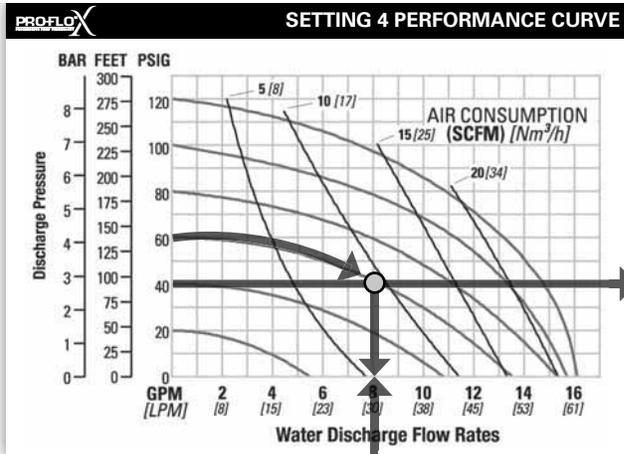

Figure 1
FIGURE 1 When air pressure is supplied to the pump, the air valve directs pressure to the back side of the diaphragm **A**. The compressed air moves the diaphragm away from the center section of the pump. The opposite diaphragm is pulled in by the shaft connected to the pressurized diaphragm. Diaphragm **B** is on its suction stroke; air behind the diaphragm has been forced out to the atmosphere through the exhaust port. The movement of diaphragm **B** towards the center section of the pump creates a vacuum within the chamber **B**. Atmospheric pressure forces fluid into the inlet manifold forcing the inlet valve ball off of its seat. Liquid is free to move past the inlet valve ball and fill the liquid chamber (see shaded area).
Step 1: Identifying performance at setting 4. Locate the curve that represents the flow rate of the pump with 4.1 bar (60 psig) air inlet pressure. Mark the point where this curve crosses the horizontal line representing 2.8 bar (40 psig) discharge pressure. (Figure 1). After locating your performance point on the flow curve, draw a vertical line downward until reaching the bottom scale on the chart. Identify the flow rate (in this case, 8.2 gpm). Observe location of performance point relative to air consumption curves and approximate air consumption value (in this case, 9.8 scfm).